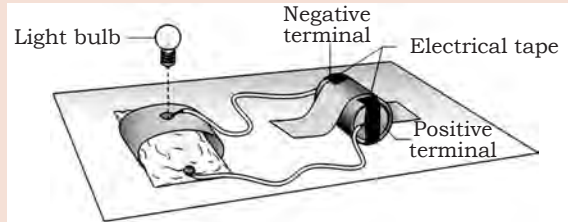

Fig.1.36
6. Place the bulb into the bulb holder. Make sure the bottom of the bulb is touching the aluminium foil as shown in Fig. 1.36.